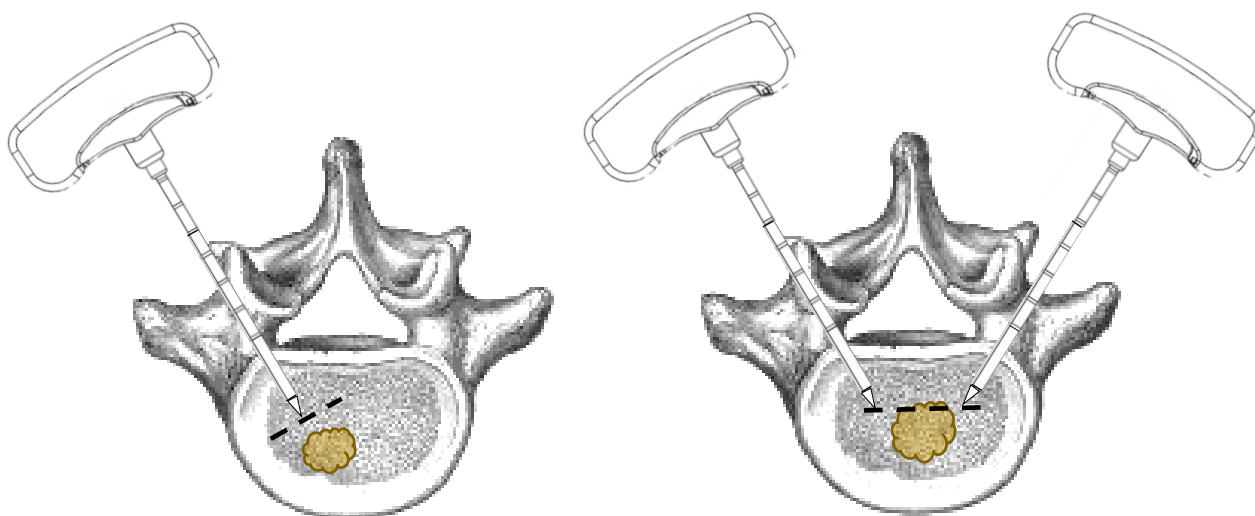

Figure 11 - Access to the back boundaries
- The back boundaries in the case of single or double access are shown in Figure 11.